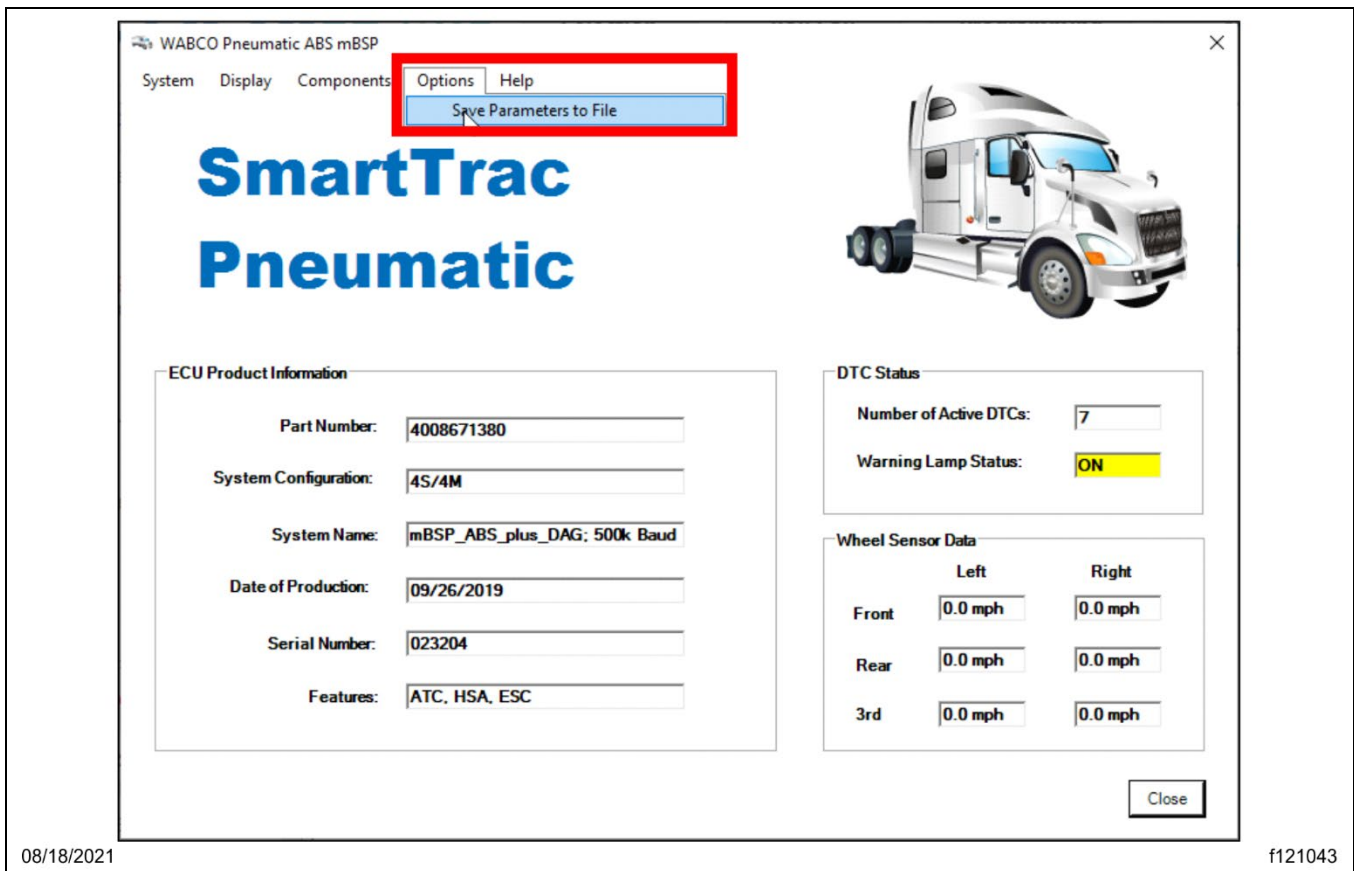

Fig. 63, Choosing the Save Location
21. From the menu bar, go to 'Options' and select 'Save Parameters to File.' See Fig. 63.